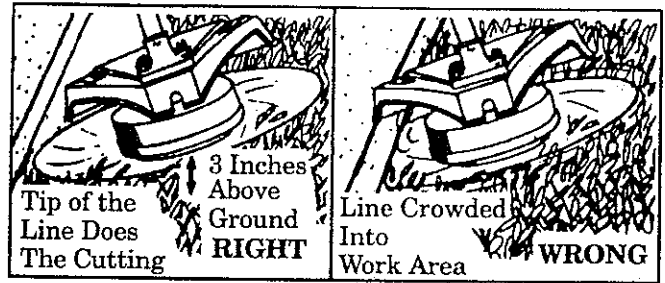

Figure 14
- **The tip of the line does the cutting.** You will achieve the best performance and minimum line wear by not crowding line into cutting area. The right and wrong ways are shown in Figure 14 .